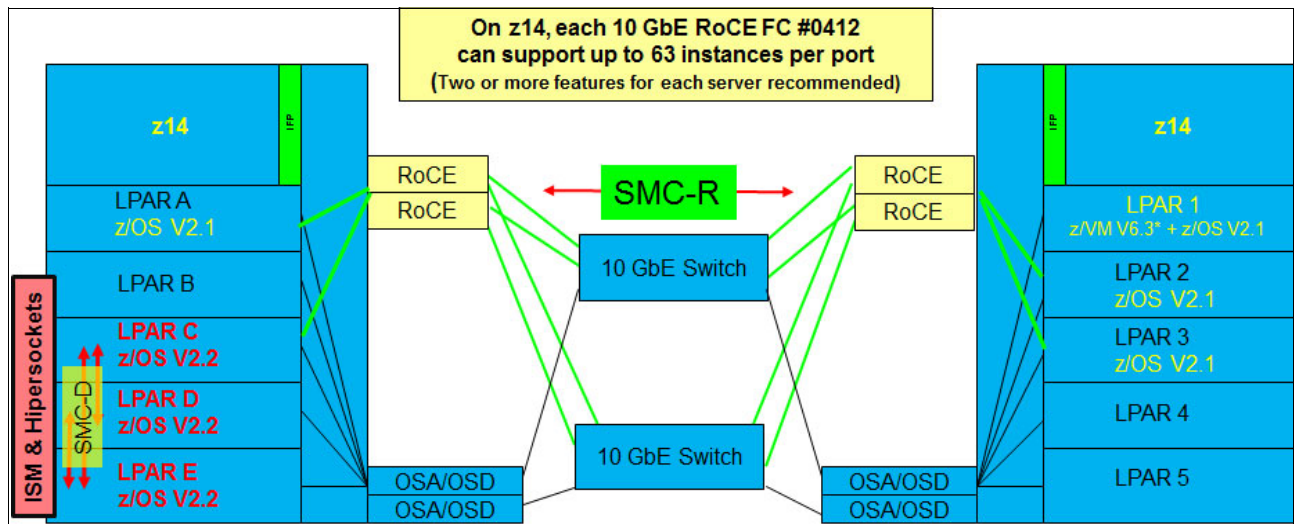

Figure D-5 10GbE RoCE Express sample configuration
A sample configuration that allows redundant SMC-R connectivity among LPAR A and C, and LPAR 1, 2 and 3 is shown in Figure D-5. Each feature can be shared or dedicated to an LPAR. As shown in Figure D-5, two features per LPAR are advised for redundancy.
The configuration that is shown in Figure D-5 allows redundant SMC-R connectivity among LPAR A, LPAR C, LPAR 1, LPAR 2, and LPAR 3. LPAR to LPAR OSD connections are required to establish the SMC-R communications. The 1 GbE OSD connections can be used instead of 10 GbE. OSD connections can flow through the same switches or different switches.
The OSA feature might be a single or pair of 10 GbE, 1 GbE, or 1000Base-T OSAs. The OSA must be connected to another OSA on the system with which the RoCE feature is communicating. As shown in Figure D-5 on page 482, 1 GbE OSD connections can still be used instead of 10 GbE and OSD connections can flow through the same 10 GbE switches.
- ▶ Required queued direct input/output (QDIO) Mode OSA connectivity between z/OS LPARs, as shown in Figure D-5 on page 482.